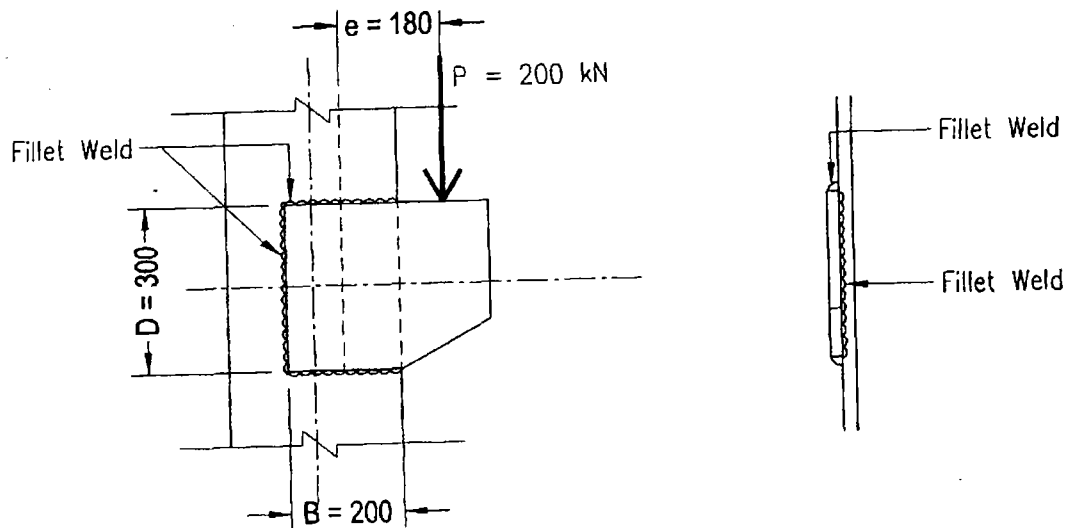

Figure 3 / Rajah 3 : Side Plate Connection
- (b) Determine the suitable fillet weld size using electrode Class E42 for steel grade S355 side plate connection subjected to 200 kN point load as shown in Figure 3. Sketch the proposed welding scheme if $a = 0.7s$